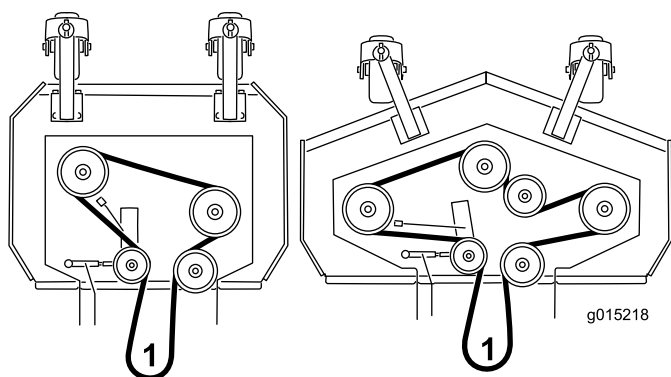

Figure 5
9. Check the deck drive belt routing (Figure 5). Refer to the Adjusting the Mower Belt Tension section in the *Operator's Manual* to correctly adjust the deck drive belt. Ensure the belt is on the correct side of